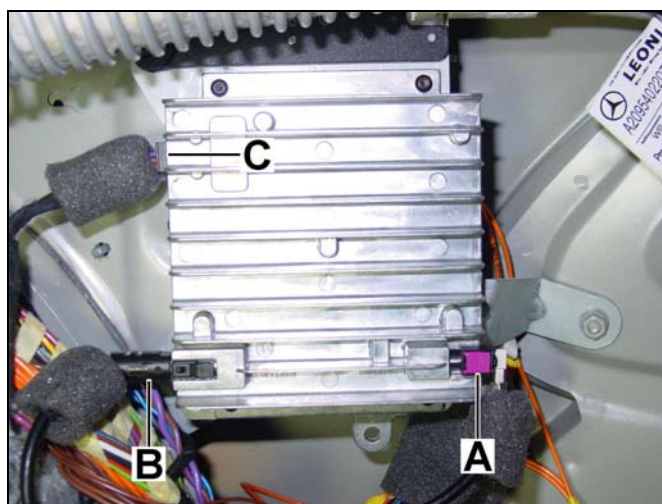

Figure 23
6. Connect the Female FAKRA antenna lead to the linear compensator jack labeled "ANTENNA" (A, Figure 23).
7. Connect the male FAKRA antenna lead to the linear compensator jack labeled "PORTABLE" (B, Figure 23).
8. Connect the power supply to the linear compensator (C, Figure 23).